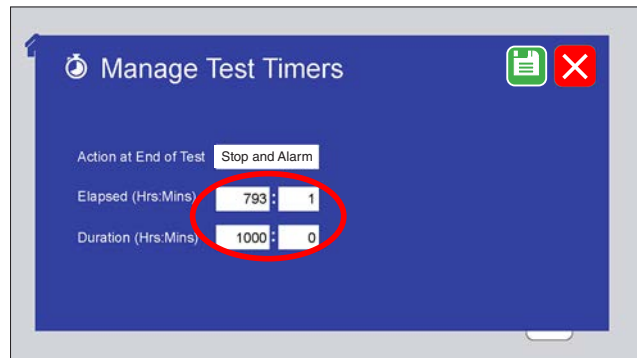
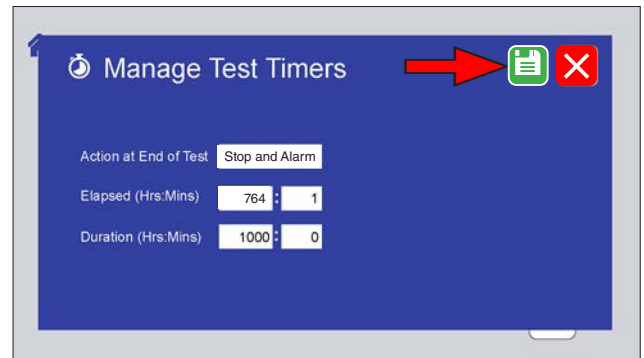

Figure 9.5d: Touch the Elapsed or Duration text box(s) to enter the new values.
Figure 9.5f: If any changes have been made, touch the save changes icon or the cancel changes icon to re-display the Main Menu screen.
2. Set the elapsed time for the current test (Figure 9.5d through Figure 9.5f).
3. Set the duration time for the current test (Figure 9.5d through Figure 9.5f).